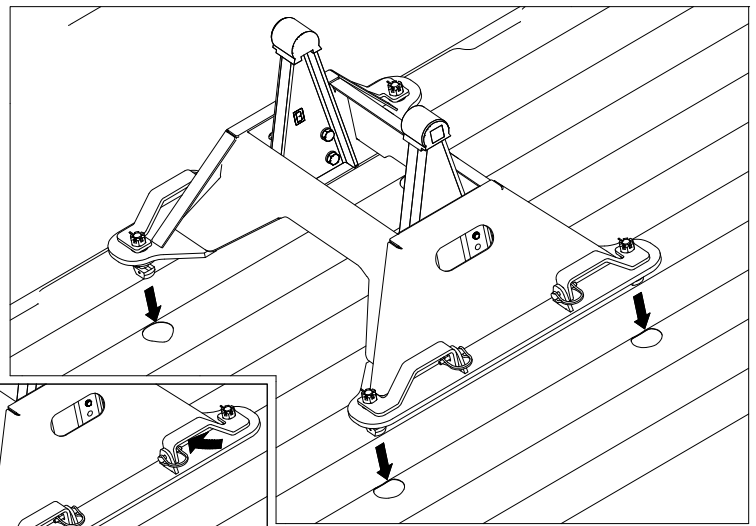

Figure C1:
1. **Place Base.** Remove the latch pins from each side of the base and rotate the handles out, see Figure C1. Position the base over the attachment points. Carefully lower it until the latch cams pass through the floor and the base rests flat against the top of the attachment points.